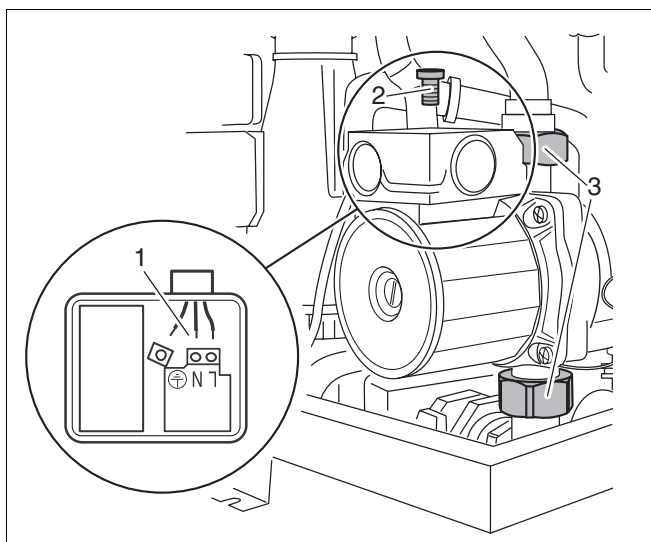

Fig. 63 600 Series 11S / 19S / 24S / 24C:
- Loosen the screw on the terminal box (fig. 63, item 2) of the circulation pump and open the terminal box. Note the wiring layout, and loosen the cables (fig. 63, item 1).
- Loosen the screw-in connections on the circulation pump (fig. 63, item 3) and remove the pump.